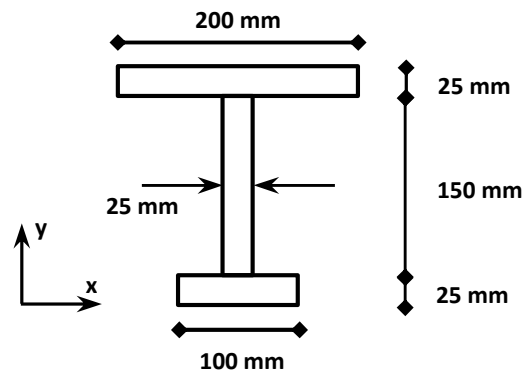

Figure Q.16
16. Calculate the 2nd moment area of the shape in **Figure Q.16** about its centroid.